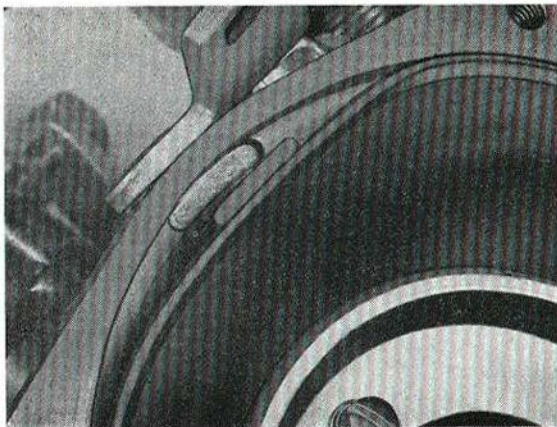

Fig. 2-123. Diaphragm in carburetor housing
4. Move the air valve down and fit in the rubber register as shown in Fig. 2-123. Fit the cover and fill with damper oil.